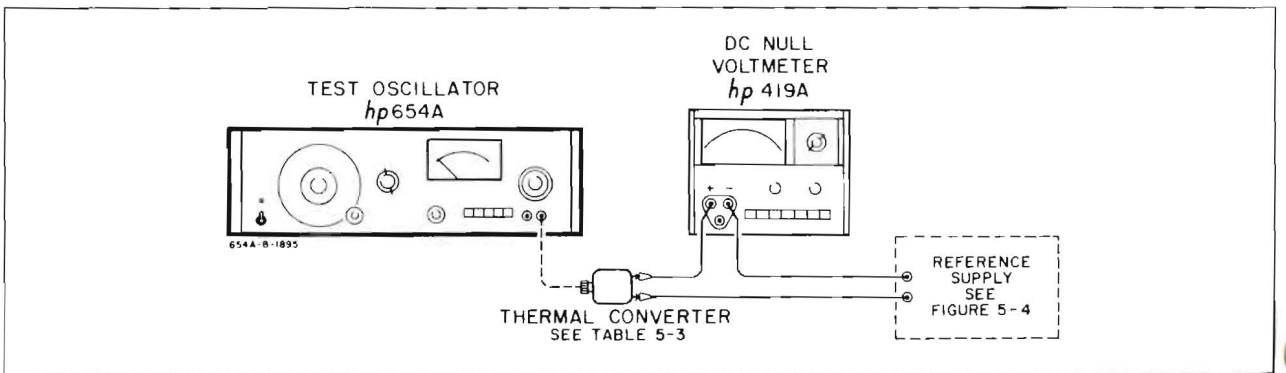
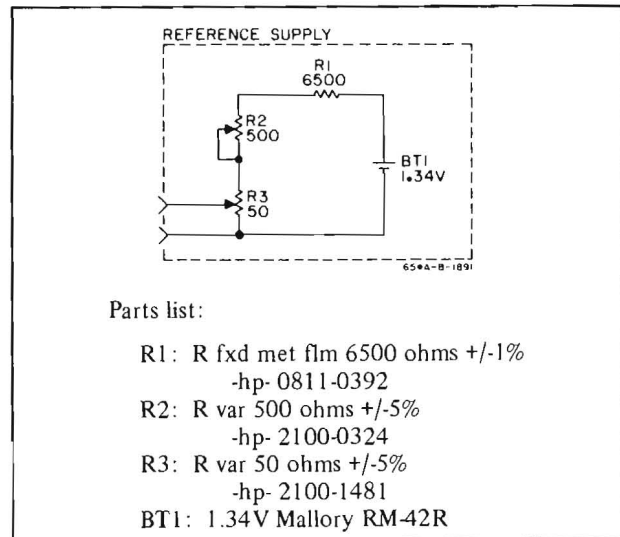

Figure 5-3. Level Flatness Checks
Figure 5-4. Reference Supply
- b. Connect the equipment shown in Figure 5-3; use the 50 ohm thermal converter (Table 5-3) which should be connected directly to the 654A UNBAL output connector. (The parts required to build the Reference Supply are shown in Figure 5-4).